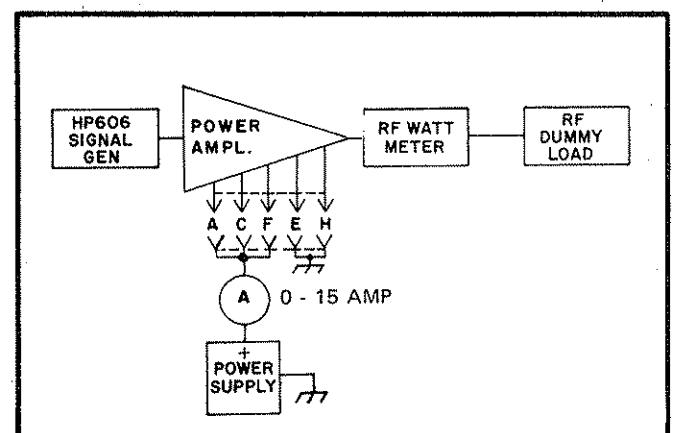

Figure 5.4 Power Amplifier Test Setup
5.8.4.2 For servicing the power amplifier, it is desirable to use an external power source capable of 28VDC at 12 amperes, continuously variable from 0 to 28 VDC. If such a power source is not available, the exciter power supply can be used. A typical test set up is shown in Figure 5.4.
5.8.4.7 When transistor replacement is complete, test the power amplifier per test setup shown in figure 5.4. Apply D.C. power and slowly increase signal generator drive until 100 watts is shown on the wattmeter. The ammeter should indicate approximately 8.5 amperes. Allow the amplifier output to remain at 100 watts for one or two minutes. Remove the signal drive. The ammeter should drop to 1 ampere or slightly greater. If the current drops to 2 amperes or higher and slowly decays toward the 1 ampere level, this means that one or both output transistors has not been properly seated to